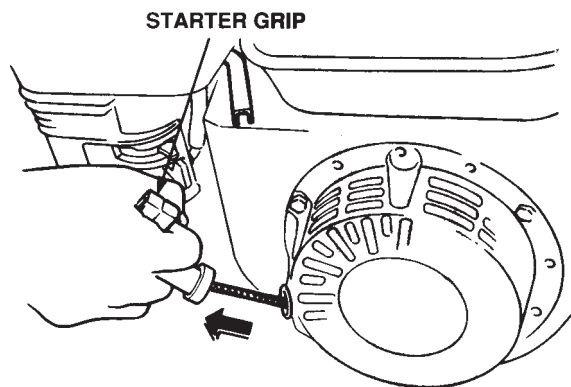

Figure 24. Starter Grip
- Grasp the starter grip (Figure 24) and slowly pull it out. The resistance becomes the hardest at a certain position, corresponding to the compression point. Pull the starter grip briskly and smoothly for starting.